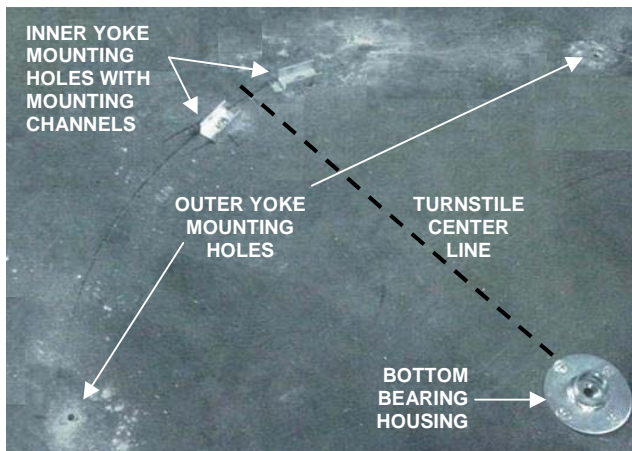

Figure A.5 - Anchoring the yoke mounting channels.
16. Reposition the yoke mounting channels over the anchor holes (See Figure A.5).
17. Anchor each yoke mounting channel with one (1) each 3/8 - 16 x 2 1/2" HHCS bolts and flat washers and hand tighten.